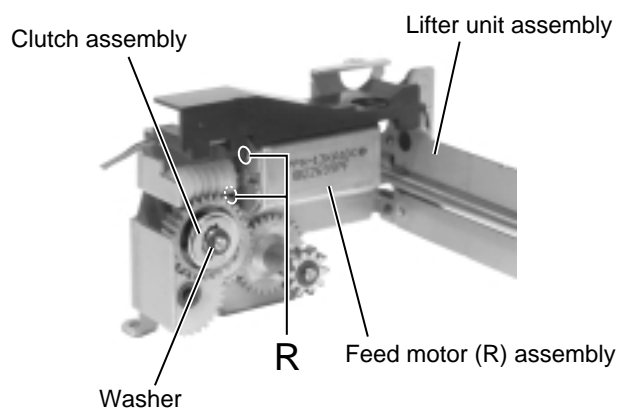

Fig.13
■ Removing the feed motor (R) (See Fig.13)
2. Remove the two screws R attaching the feed motor (R).